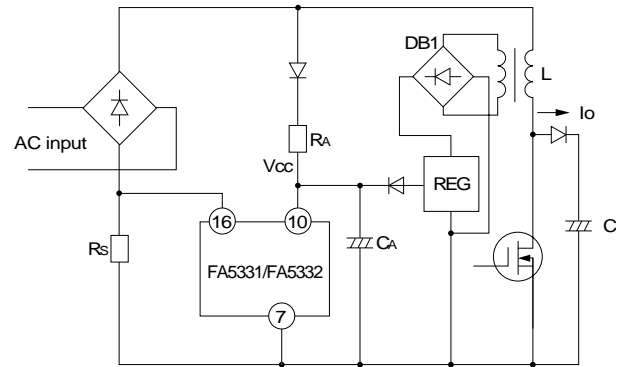

Fig. 9 Start circuit
Figure 9 shows a sample start circuit. Since the IC current while the Vcc pin voltage rises from 0V to V_{THON} is as small as 90μA (typ.), the power loss in resistor R_A is small. If an additional winding is prepared in the voltage step-up inductor (L), power to the control circuit can be supplied from this circuit. However, the voltage must be stabilized by a regulator circuit (REG) to prevent an excess rise of the IC supply voltage (Vcc). Use fast or ultra-fast rectifier diodes for the rectifier circuit (DB1) of the winding for high-frequency operation.
Figure 9 shows the basic circuit of a voltage step-up type converter which is used as a power factor correction.